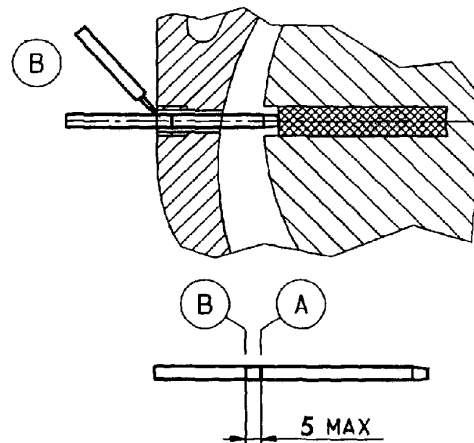

Fig. J.3 - Control - part 2
- Turn the rotor again until the rod enters a slot in the vanes, **Fig. J.3.**
- Mark the rod again with the point and measure the difference between the two measurements, **Fig. J.3.**